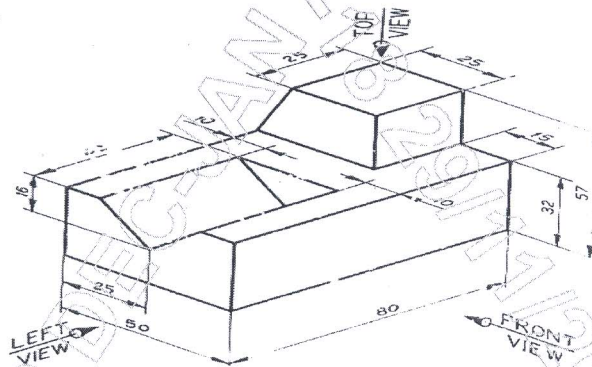

Figure 1
1. Draw the front, top and side views of the machine element shown in figure 1.